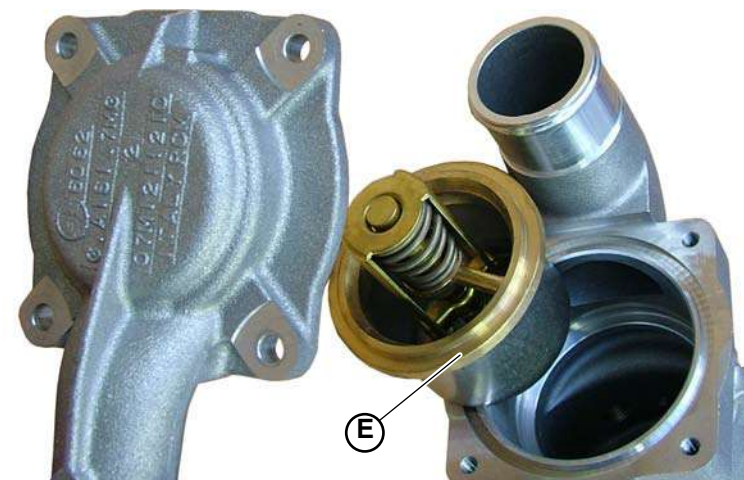

Fig.2
3. Take the thermostatic valve (E-Fig.2) out.